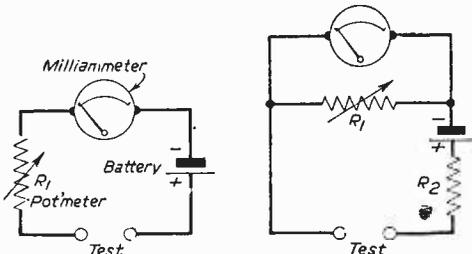

Fig. 1.—Normal test meter circuit.
**F**EW experimenters have not, at some time, either made or purchased an ohmmeter of some sort, and the commonest type has a single range capable of measuring up to about 100,000Ω. The circuit normally consists of a test cell or battery in series with a milliammeter and potentiometer as in Fig. 1.